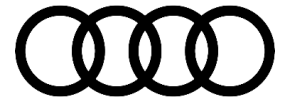

Figure 2. Loosening the front most subframe bolt.
3. In many cases an audible 'cracking' noise can be heard in the course of loosening and tightening the subframe bolt (Figure 2).